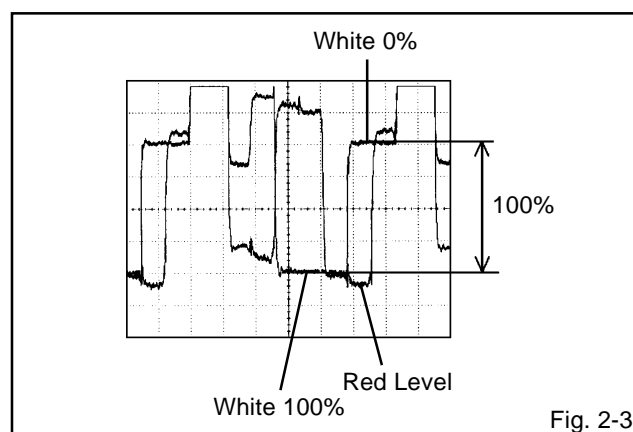

Fig. 2-3
6. Press the VOL. UP/DOWN button on the remote control until the red color level is adjusted to $110 \pm 10\%$ of the white level. **(Refer to Fig. 2-3)**